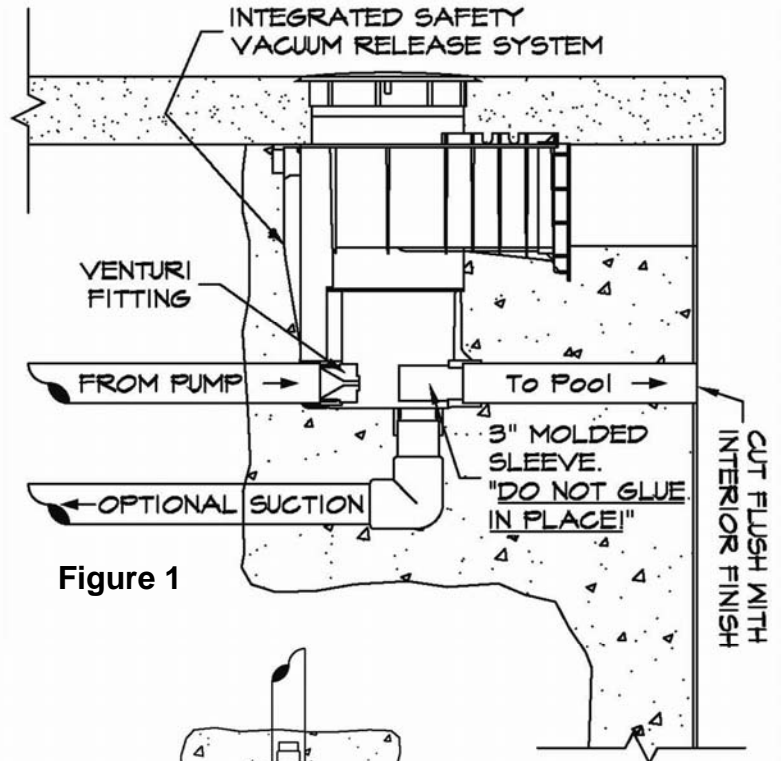
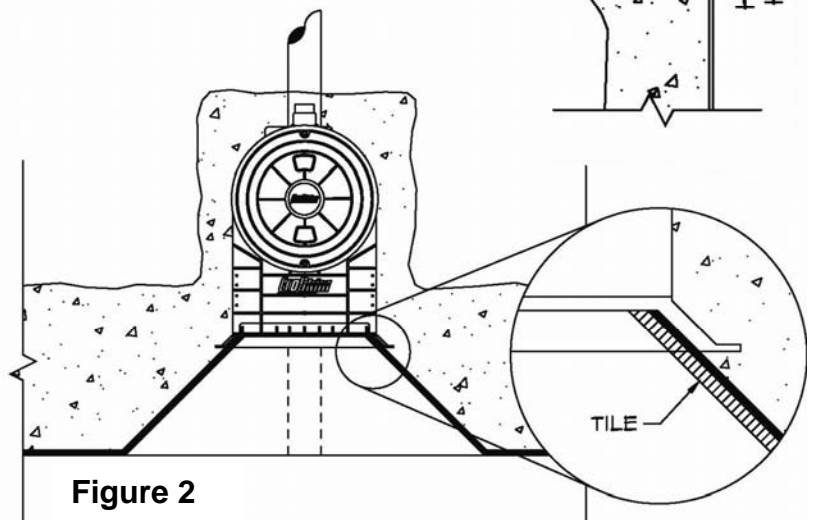

Figure 1
Figure 2
1. Set and install the EcoSkim skimmer as you would install a normal skimmer (See Figure 1 & 2 for detailed installation requirements). The EcoSkim incorporates a water stop into the faceplate to eliminate leaks. The Figure 2 detail view shows how to locate the tile/grout to ensure a water tight seal.
8. At start-up, remove the test plugs and install the venturi fitting in the inlet port (Figure 1).
9. Install the provided 3" long molded sleeve into the discharge fitting directly opposite the venturi fitting (Figure 1). **DO NOT GLUE THE SLEEVE INTO THE FITTING!** This must remain unglued so that a plug may be threaded into the bottom suction port if it is necessary to pressurize or winterize the system.